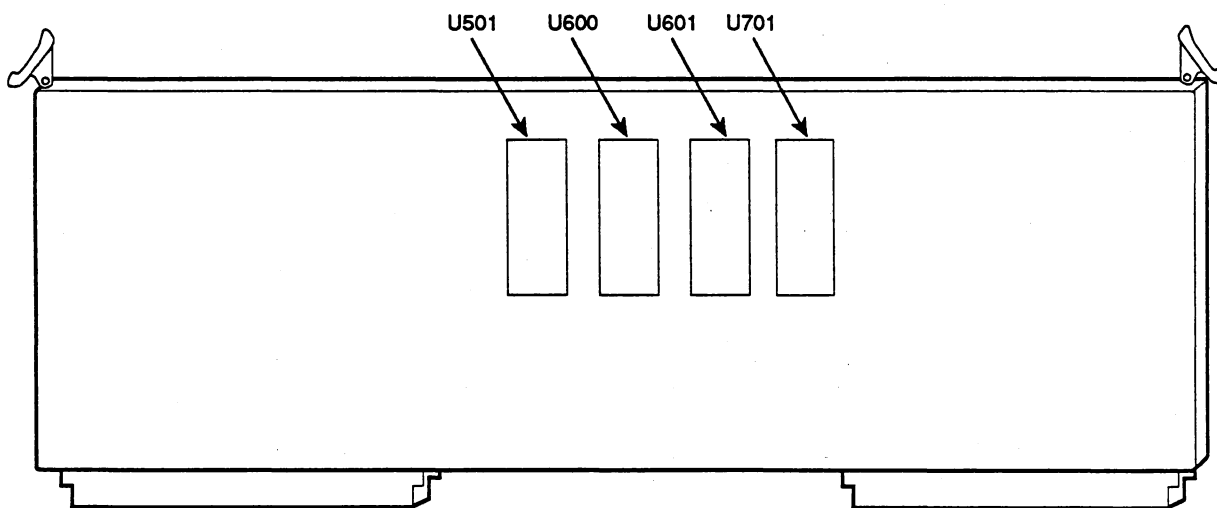

Figure 6-8: MPU Board ROM Locations
3. Using an IC puller, remove the defective ROMs. The ROM locations are shown in Figure 6-8.